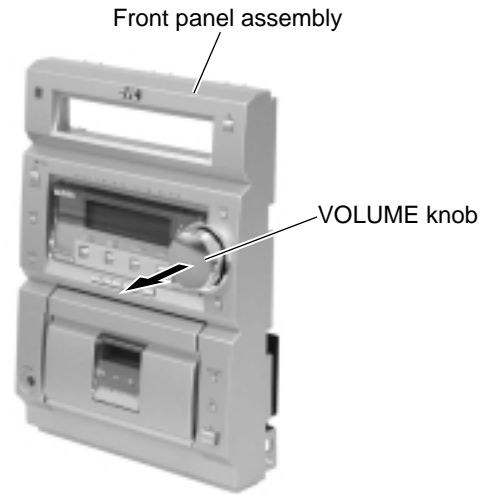

Fig.26
■ Removing the display board / switch board (See Fig.26 to 28)